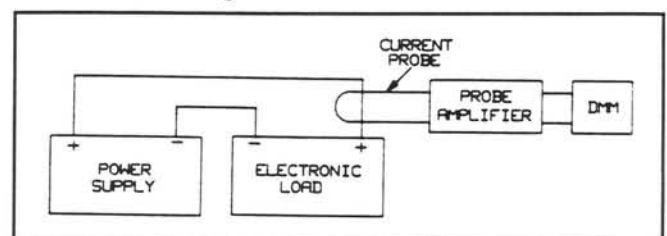

Figure 2-3. Test Setup C
- a. Connect the Electronic Load, power supply (HP 6032A or equivalent), DMM, and current probe as shown in Figure 2-3. Set power supply for 10 V and greater than 10 A.